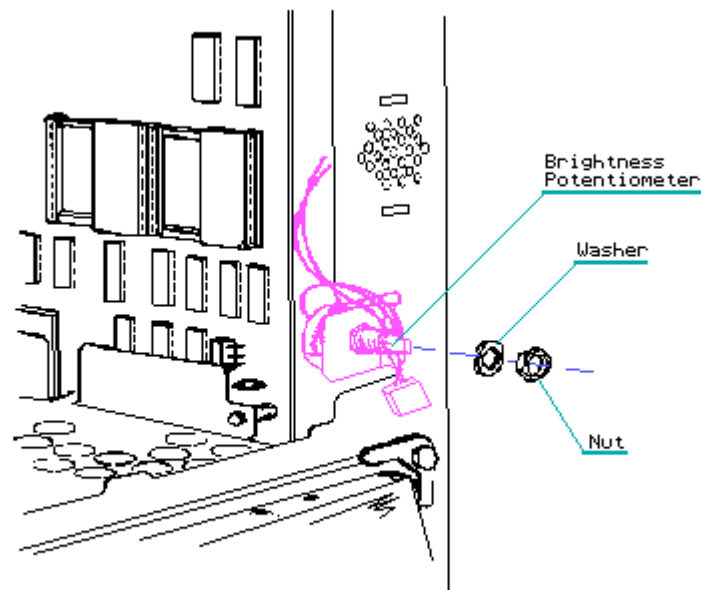

Figure 7-62. Removing the Brightness Potentiometer
5. Remove the brightness potentiometer by first unscrewing the nut that secures it to the system chassis, then push the brightness potentiometer out of the system chassis (Figure 7-62).